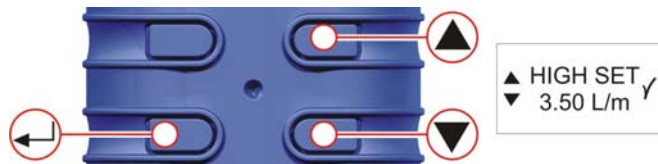

Figure 25 High Set Screen
K. ADJUSTMENT OF HIGH SET POINT (Fig. 25)